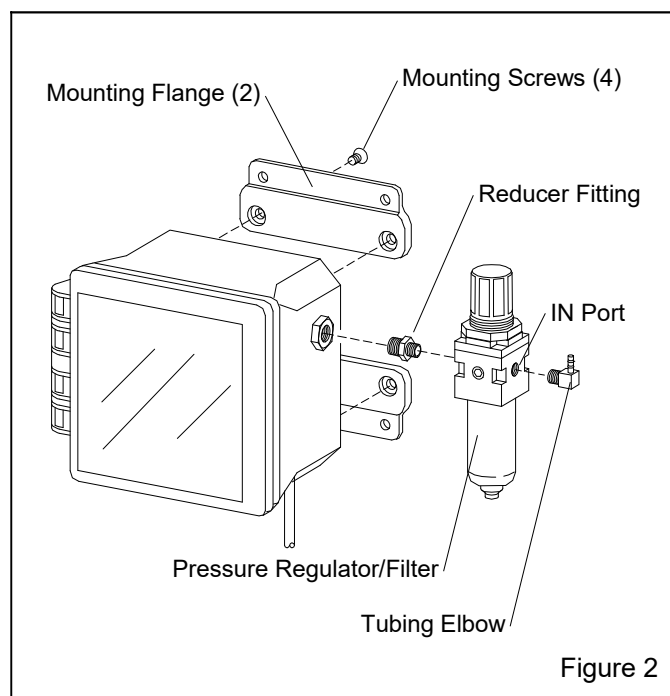

Figure 2
2.1 Assembling the Monitor, Ref. Figure 2
2.1.2 Apply Teflon thread seal tape to the male threads of the 1/4" x 1/8" reducer fitting and tubing elbow, and assemble as shown in Figure 2. Make sure the regulator is correctly installed so the air flows toward the instrument. The tubing elbow may be rotated after the instrument is mounted to enable the tubing to be connected with minimum bends.
2.2.1 The simplest way to mount the CMS-1 is with the mounting flanges provided, ref. Figure 2. Mount the monitor in convenient location that is close to the compressed air source. Refer to Section 2.3.2. The monitor must be positioned upright and level to ensure the flow meter responds correctly. Place the monitor on